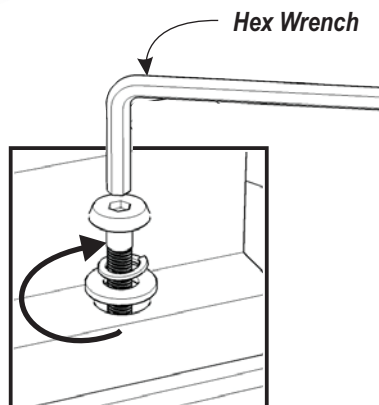

Figure 4
Attach Table Slide (E) to the unit, using Head Cap Bolts(long), Spring Washers (small), Flat Washers(small) and Wood Screws. (see Figure 4), (see Figure 5)